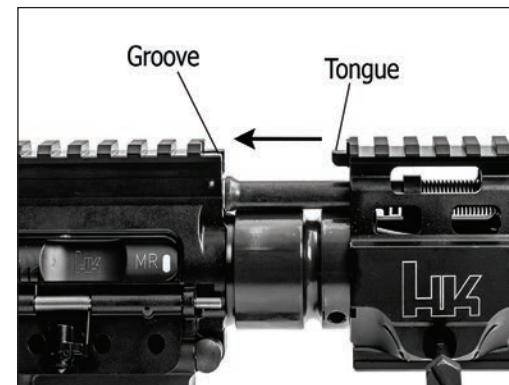

Fig. 32 – Reinstalling the handguard
c. Slide the handguard onto the barrel nut, ensuring that the tongue on the handguard mounts into the groove on top of the upper receiver. Once the handguard is flush with the upper receiver, drift in the captive handguard retaining screw. Using an 11mm hex wrench or flat head screwdriver rotate clockwise until hand tight (Fig. 32).